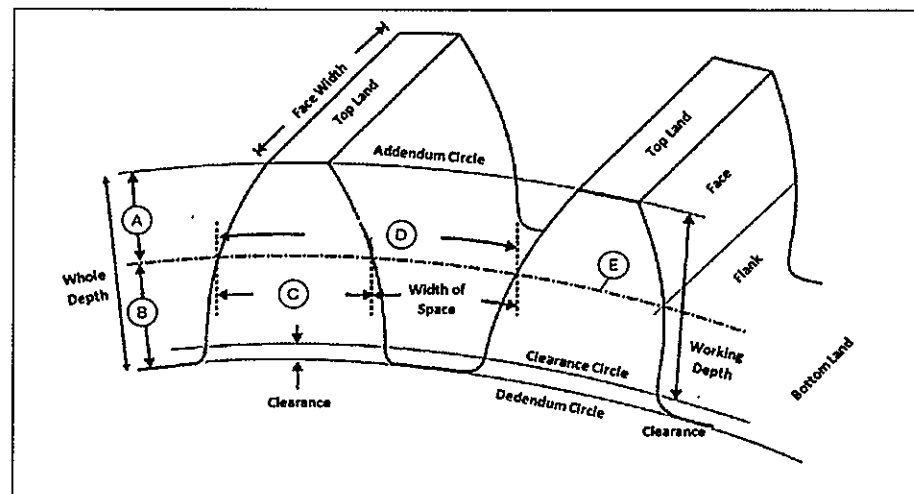

Figure 3a / Rajah 3a
- (a) Name the parts labeled A, B, C, D, and E of the spur gear shown in **Figure 3a** below: